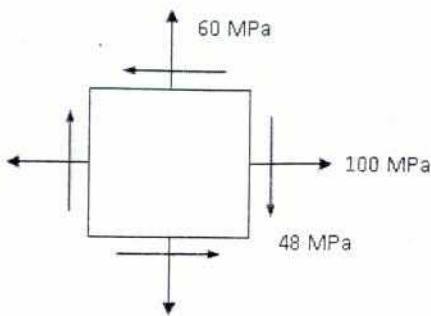

Fig. 3
- Q3** For the state of plane stress as shown in Fig. 3, determine (20)